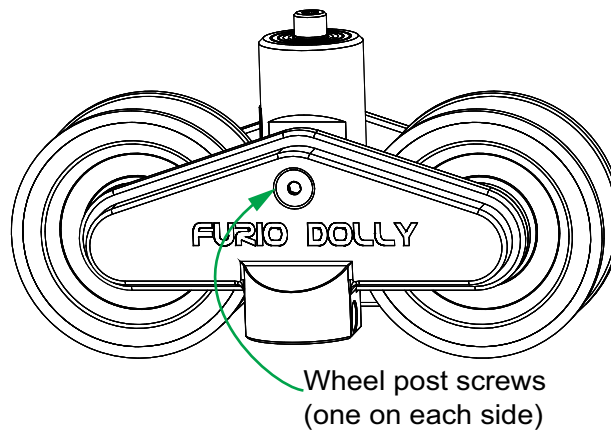

Figure 3 - Removing the Passive Wheel Post Screws
1. Using two 5 mm hexagonal wrenches in opposition to each other, remove one of the screws that holds the wheel unit together. Refer to **Figure 3**.